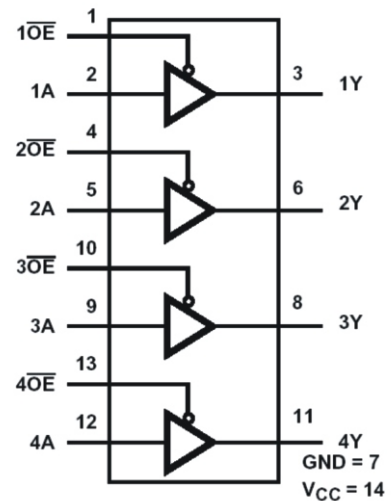

Figure 3.4.6.1 Truth value table and 74HCT125 function module structure
1. 74HCT125 (N3, N4) is a 4-channel gating switch, and each channel has its own gating signal, in which pin 1, 4, 10 and 13 are gating control pins, gating when in low level and off when in high level. 74HCT125 truth value table and function module structure is shown as the figure 3.4.6.1: